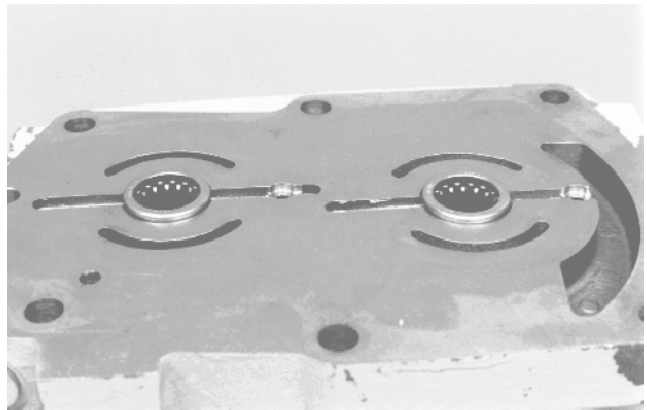

Figure 57
5. Press new needle bearings into center section using a suitable press pin. When installed correctly, bearing cage will protrude from 0.09 to 0.11 inch (2.3 to 2.8 mm) from the surface of the center section to serve as pilots for the valve plates (Fig. 57).